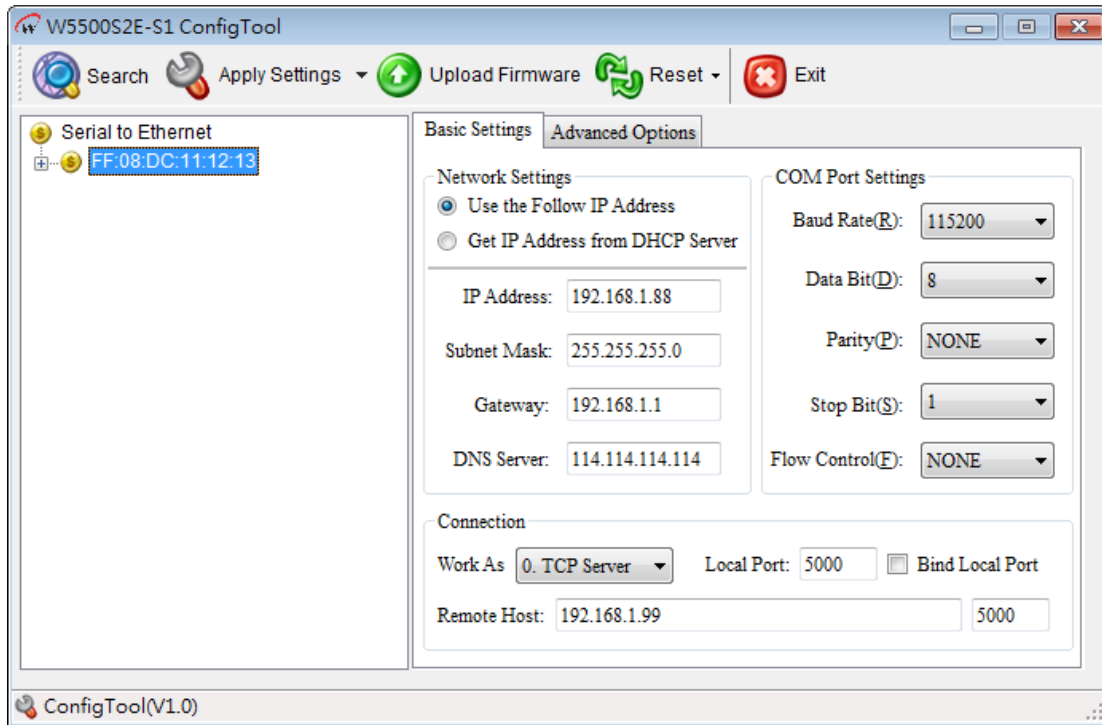

Figure 4-2 W5500S2E-S1 ConfigTool search result
3. Press  button, it shows the IP address information as the following figure 4-2.